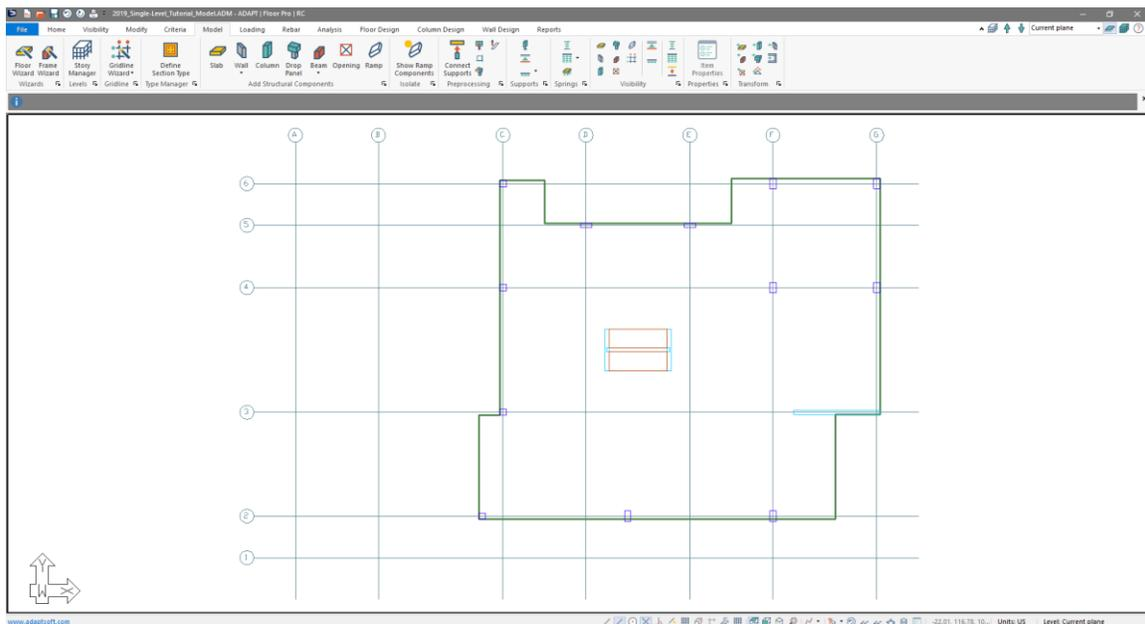

Figure 2-36
- Click on the *Zoom Extents* icon. The user should see the Level 4 floor plan modeled within Builder as shown in **FIGURE 2-36**.